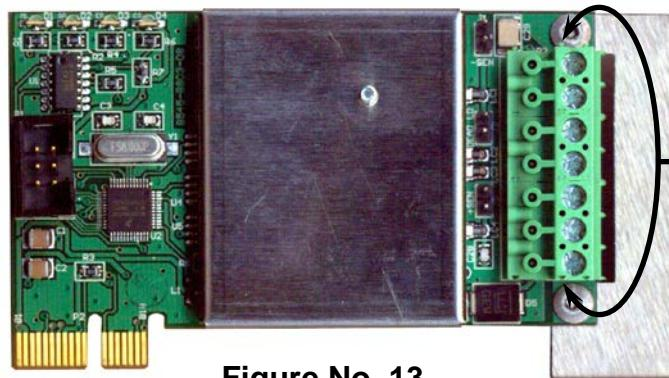

Figure No. 13
5. Remove the 7-connector terminal from the 825-SIB. (Hold the board in place, grasp the terminal block connector, and lift straight up away from the board). See Figure No. 13.
7. To terminate a wire, loosen the screws in the terminal block and then insert the wire into the terminal opening. Tighten the screw to secure the wire in place. See Figure No. 13.